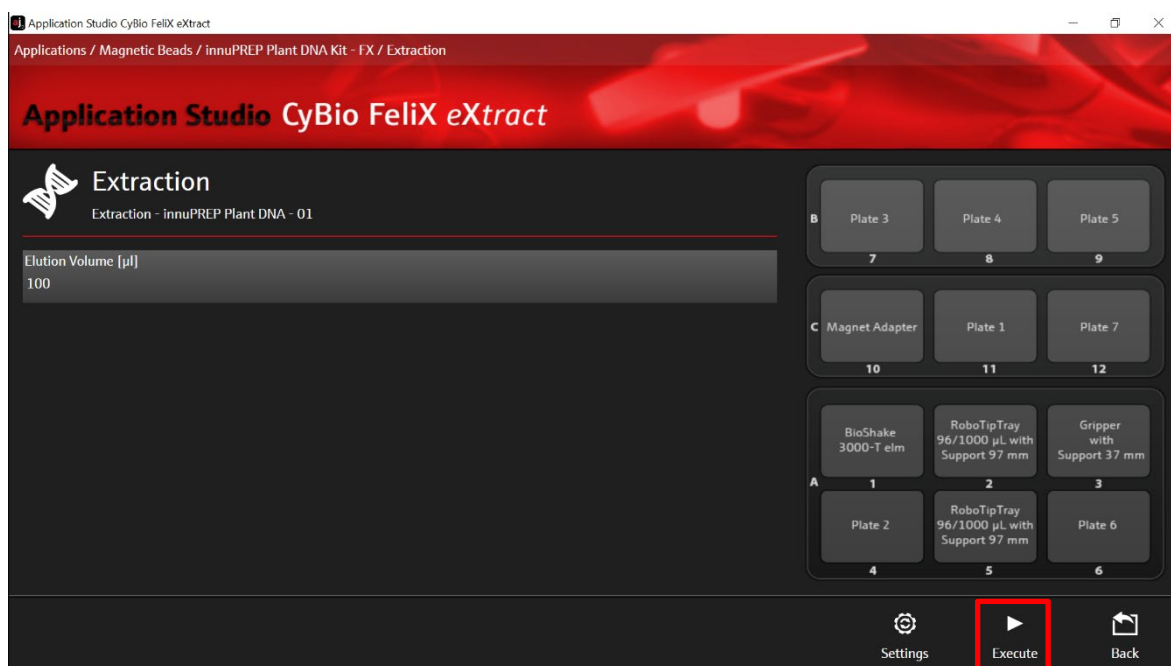

Figure 15: Adjustment of elution volume (variable).
6. After selecting "Extraction" the Extraction Start Screen appears (→see Figure 15).
8. Adjust elution volume (between 50–200 μ L, 100 μ L are recommended; → see Figure 15).